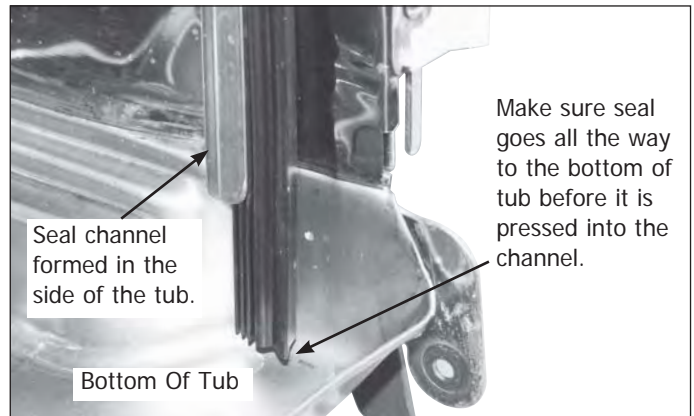

Figure 4-17.
4. Go to bottom of seal and adjust so end is on bottom of tub, then push into channel. (See Figure 4-17)